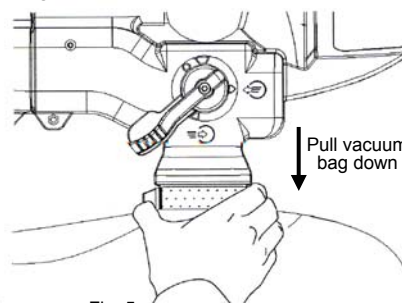

Fig. 5
4. To remove the vacuum bag, loosen the velcro strap and pull the vacuum bag off of the debris exhaust tube. (Fig. 5)